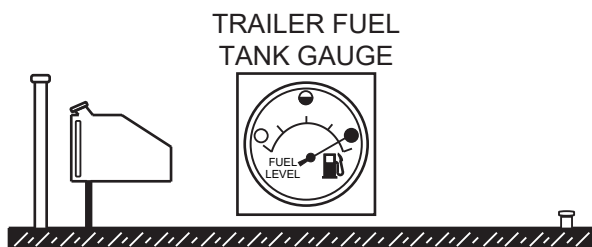

Figure 30. Trailer Fuel Gauge
3. **NEVER** overfill the fuel tank. It is important to read the fuel gauge (Figure 30) while filling the trailer fuel tank. **DO NOT** wait for fuel to rise inside the filler neck.